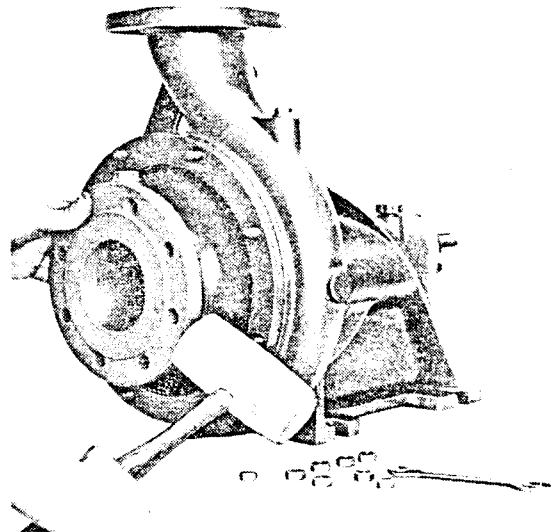

Fig. 16 Removing the suction cover
Undo the bolts fastening the volute casing (101) to the suction cover (102a) and pull off suction cover – see fig. 16.